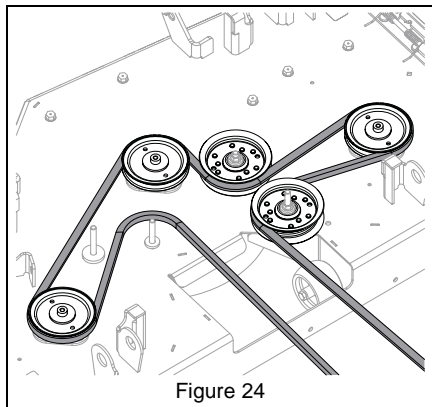

Figure 24
1. Install deck drive belt. See Figure 24.